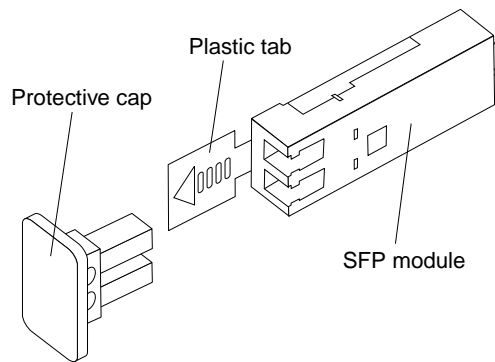

Figure 47. Small Form-Factor Pluggable (SFP) Module
5. Remove the protective cap from the SFP module, as shown in Figure 47 on page 51.